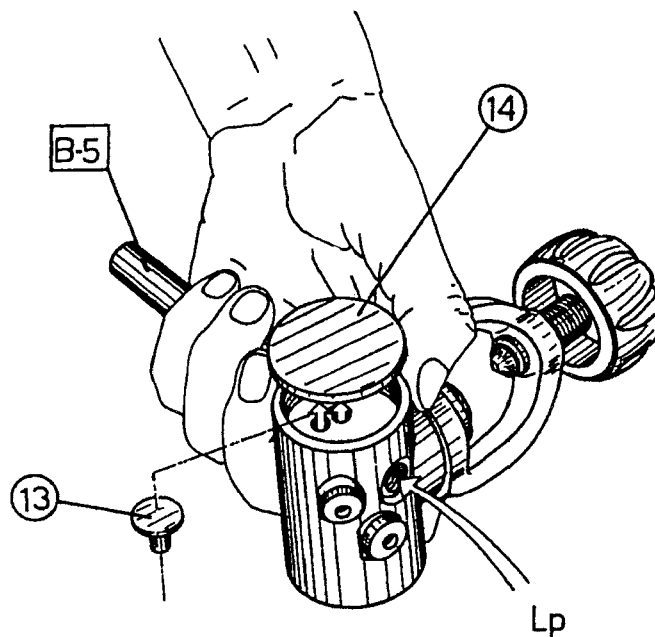

FIG. 5
12. Introduce low pressure air (below 100 PSI) and remove the diaphragm (14) and the poppet button (13). (Fig. 5)